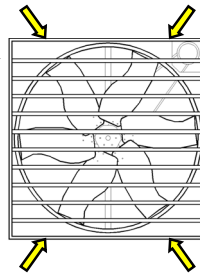

Figure 3
2. Four hooks should be installed, two on the top side and two on the bottom side of the fan. The locations of these are indicated in figure 3.